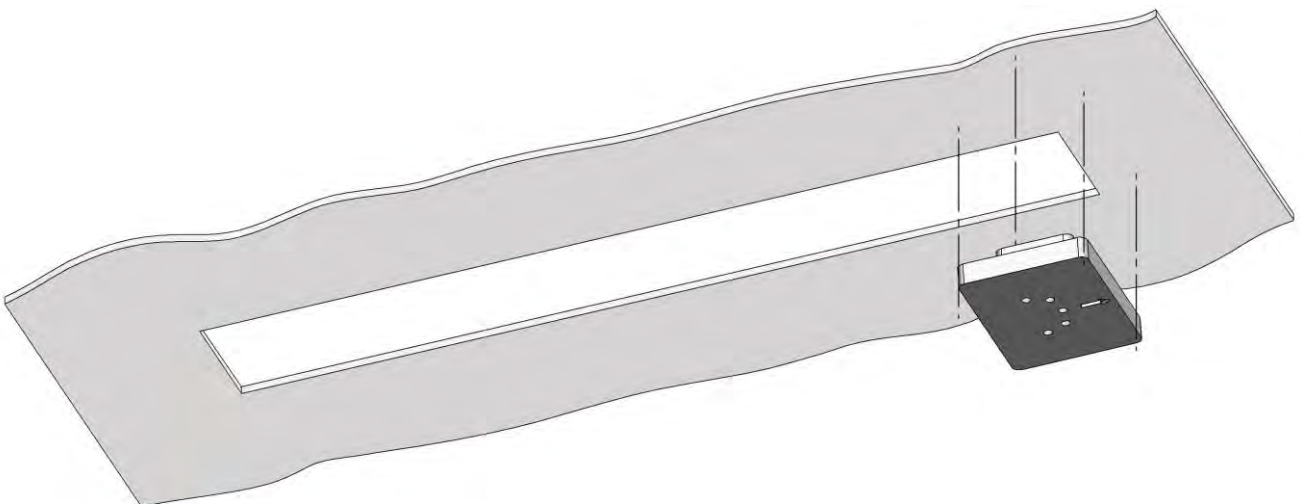
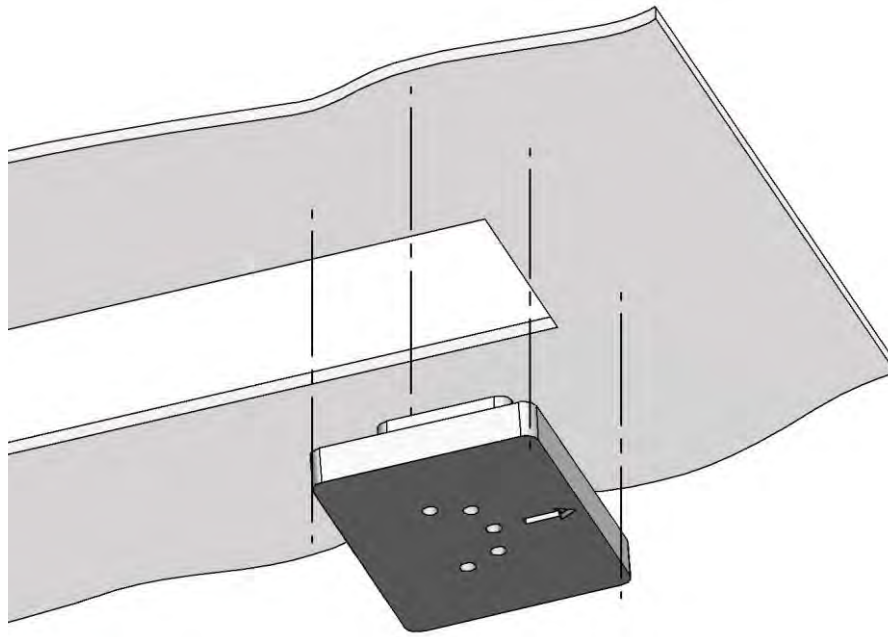

Figure 2
Figure 2a
3. On each of the two sides of the slot, apply one of the wooden blocks protecting the contents of the package in a way to aim the arrow (printed on the block) towards the outer edge of the slot (**Figure 2 , Figure 2a**).